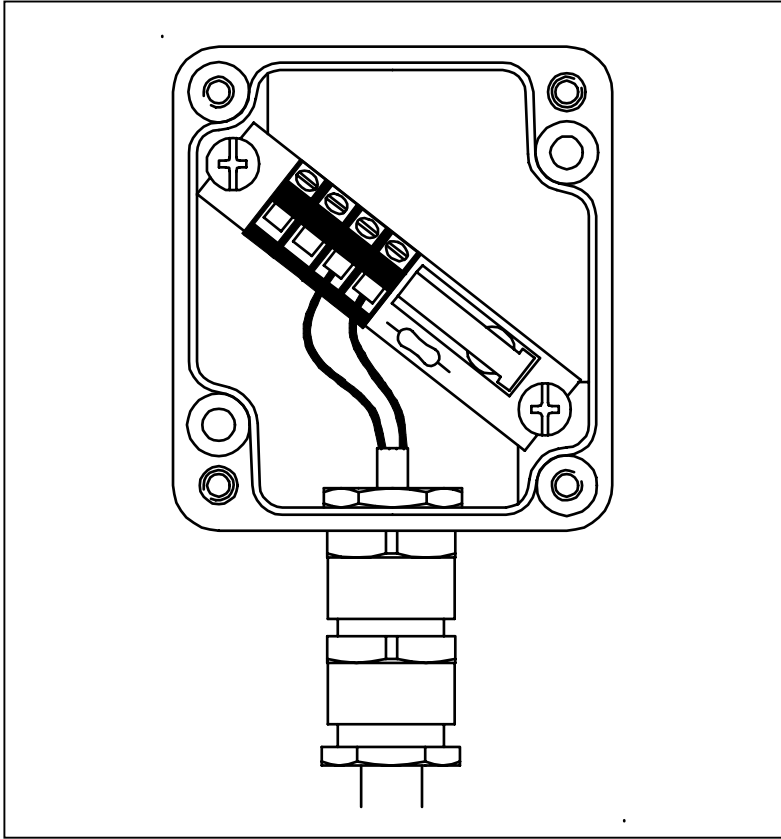

Figure 8
Once the box is mounted on the wall attach the sensor into the gland as detailed in Section 6.3 and connect the sensor wires as shown in Figure 8. If necessary the connector block can be removed to facilitate connection of the wires. Ensure the wires are free to slide inside the HDPE insulation prior to fixing.
The analyser box incorporates four holes to accept fixing screws, and the hole centre spacings are as shown in Figure 8. It is recommended that the analyser is fixed to a flat, solid surface using four No 10 x 50mm woodscrews and plastic wall plugs. It is important that a 8mm diameter drill is used so that the fixing screws grip tightly inside the wall plugs. The analyser should be sited in a convenient location to facilitate adjustment of the system controls and the connection of the sensor and signalling/power cables. The analysers are fitted with two, RF shielded, three part steel glands to accept the sensor and service cable.
4. Verify that the Alarm and Tamper LEDs are both in the ON condition. Refer to Figure 8 for details of the position of these LEDs.